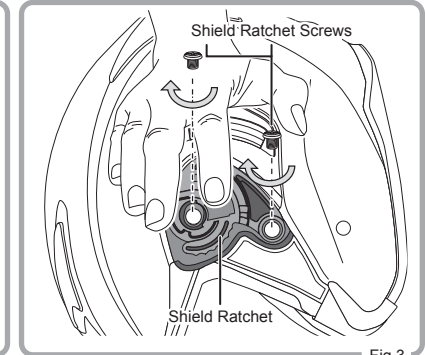

Fig.3
- ③ Fasten each Shield Ratchet Screw clockwise securely. Repeat the same procedure on the Shield Ratchet on the other side of the helmet. Then the installation of the shield ratchets is complete (Fig. 3).
- Flex the shield carefully until the shield becomes flat. Then, click the other side of the Pinlock® Original Insert Lens into the eccentric pins and then allow the shield to return carefully to its original curved shape. (Fig. 3,4,5)